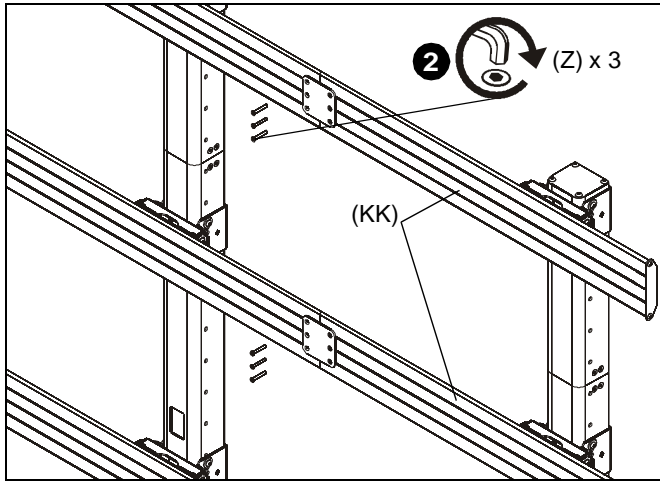

Figure 14
1. Install add-on rail (KK) to right column following instructions in Rails Installation section.
2. Use three #10-24 x 1 1/2" flat head cap screws (Z) to attach each add-on rail (KK) to display rail (L). (See Figure 14)